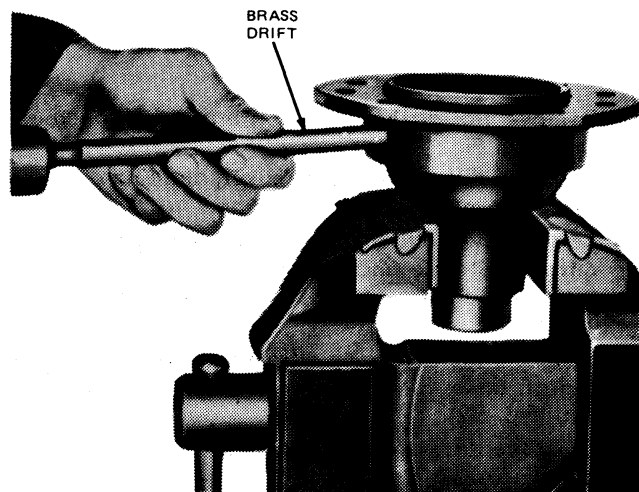

FIG. 23 Driving Out Differential Pinion Shaft
7. Drive the differential pinion shaft out with a brass drift (Fig. 23).